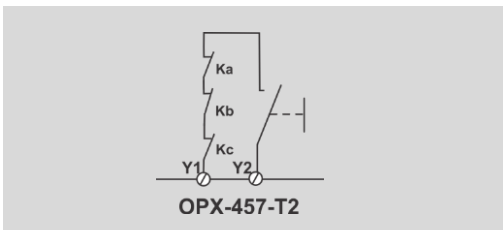
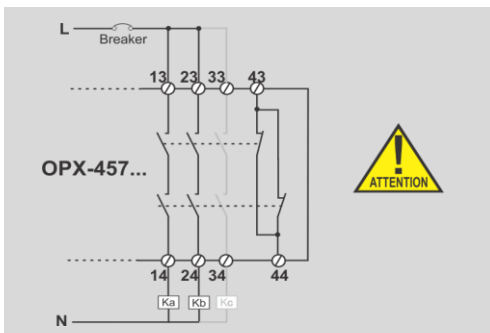

Figure 10 - Interlocking with feedback loop from the external contactors and manual reset button.
Figure 13 - Connecting loads in the safety contacts.
- Feedback loop for monitoring contactors, See figures 10 and 11.
When there is a need to use contactors triggered by the OPX-457 safety contacts to trigger more larger loads, it is mandatory to use safety contactors and use their NC contacts connected in series in the feedback link through the terminals Y1 and Y2, in this way the contacts of the contactors will be permanently monitored at each activation operation of the device, according to figures 10 and 11.
<p>When you need to expand the capacity of the output safety relay contacts, use safety contactors, Ka, Kb and optional Kc, in Fig 13, and connect their NC contacts to the Interlocking feedback loop connections according to FIG 10 and 11.</p>